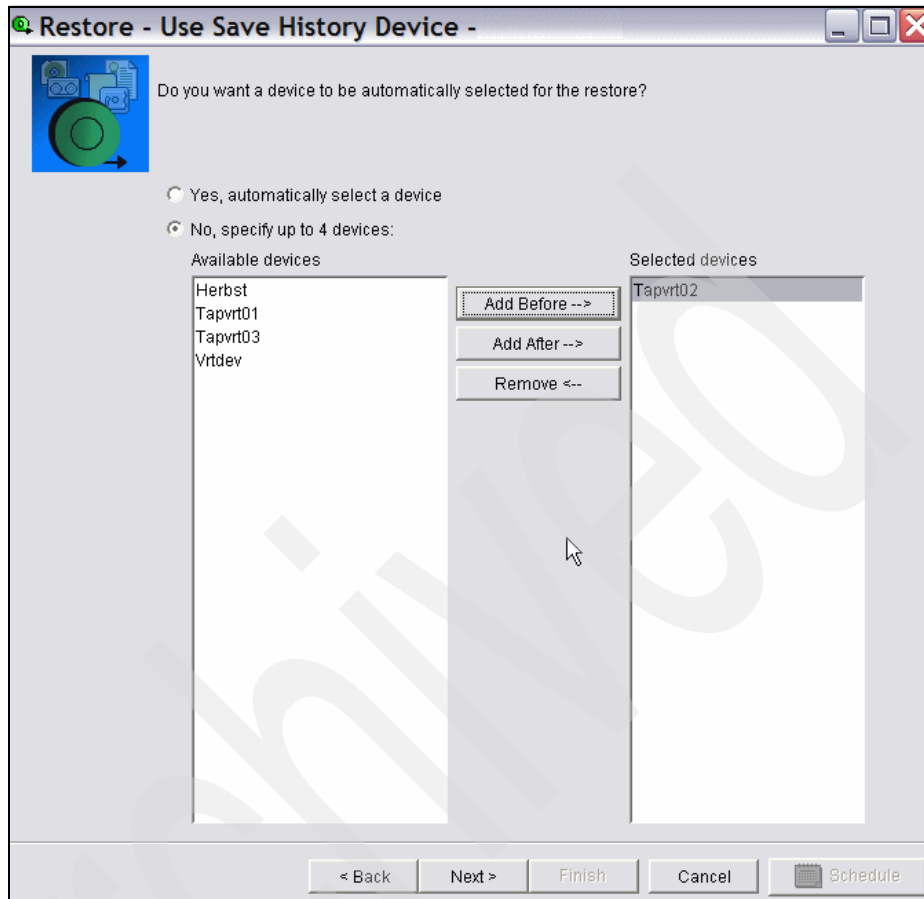

Figure 5-91 Restore Domino data with BRMS, Restore - tape device selected
11. The tape drive is selected. Click **Next** as shown in Figure 5-91 on page 271.